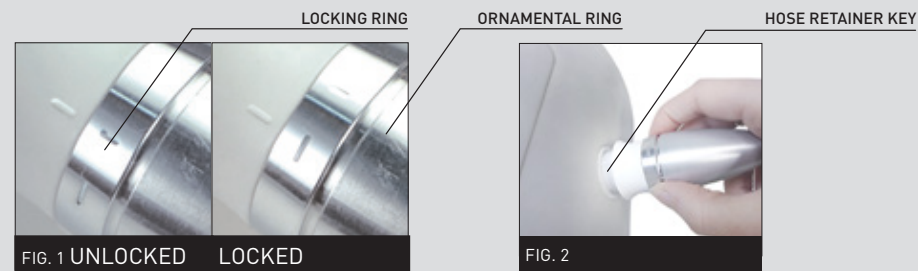

FIG. 1 UNLOCKED LOCKED
- Position the locking ring in the locked position (fig. 1).